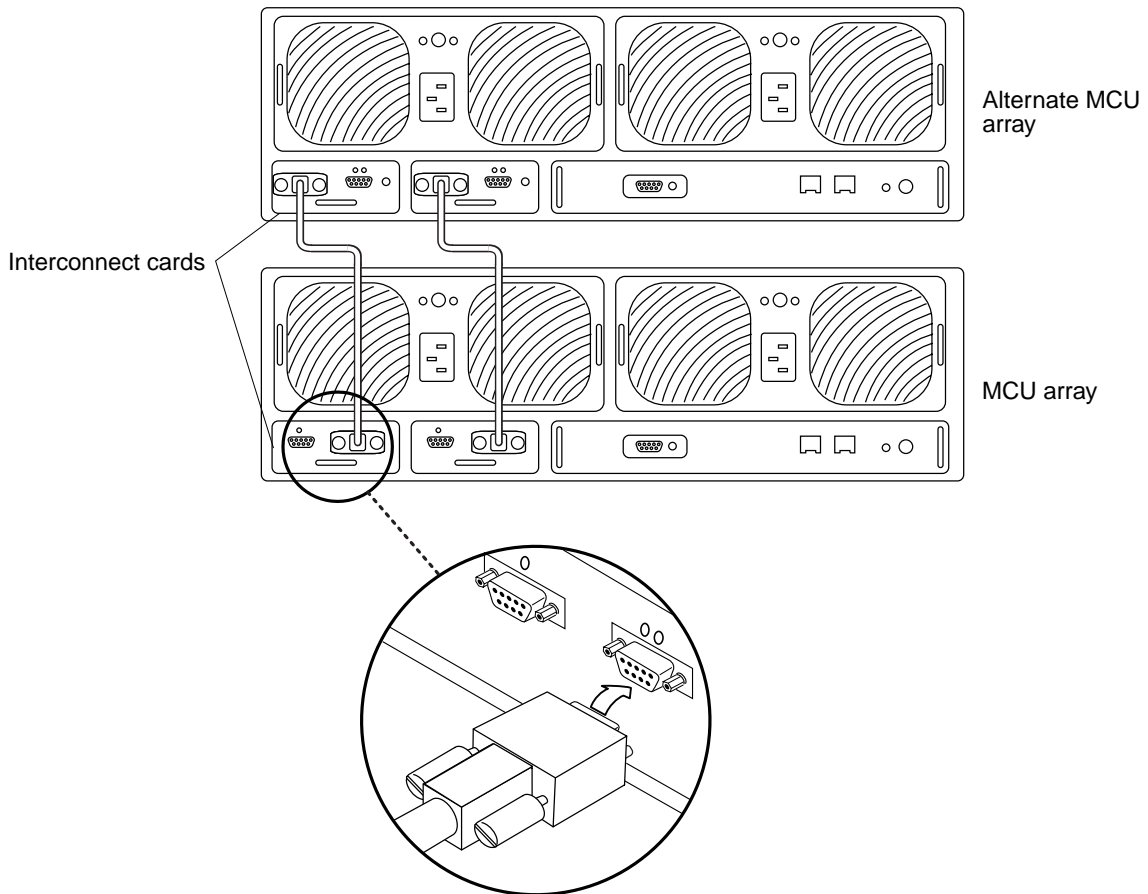

FIGURE 1 Connecting the Interconnect Cables
- Use the interconnect cables to interconnect the array partner group as shown in FIGURE 1.